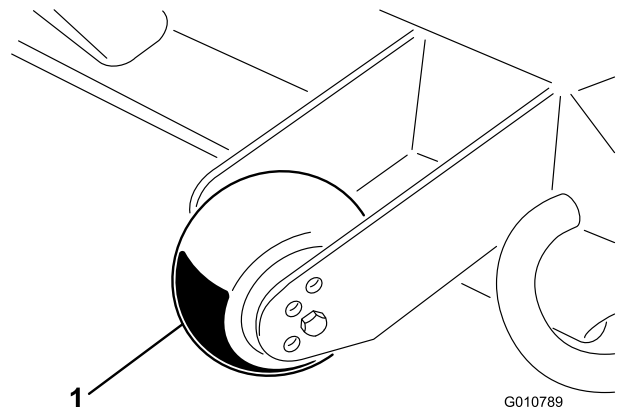

Figure 11
1. Remove the capscrew and nut securing the gage wheel to the cutting unit brackets (Figure 11).